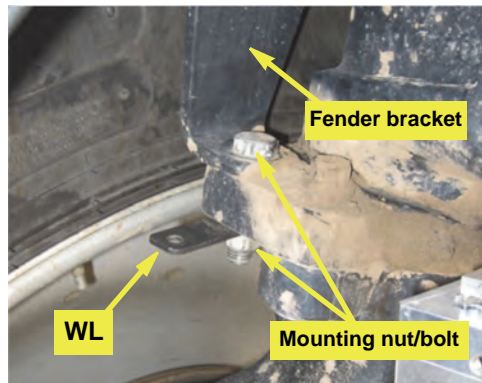

Figure 2c: WAS link rod bracket installed on fender bracket nut/bolt
- c. Remove the nut from the right side front fender bracket bolt on the steering arm. Using this nut, mount WAS link rod bracket **WL** (Figure 2c). Ensure **WL** is pointing directly forward.
- Route valve cable **ED**, WAS cable **EE** and **EA**'s detachable battery cable through the cab access hole at the right rear corner of the cab (Figure 2c, top left inset).
- Using cable ties **ER** route **ED** to the machine's autosteer hydraulic block behind the front axle (Figure 2c and top right inset). Disconnect the machine's two solenoid connectors (4-pin, labelled 'STEER VALVE' and 2-pin, labelled 'OVERRUN VALVE') and connect **ED**'s 4-pin and 2-pin connectors respectively (Figure 2c, bottom left and bottom right insets).
Figure 2c with insets: Valve cable connected at machine's autosteer valve block solenoids